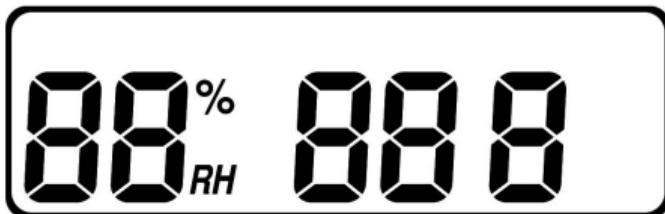

Figure 3
3. After inserting the battery, the LCD screen will display all the sections 2 seconds, like the Figure 3.